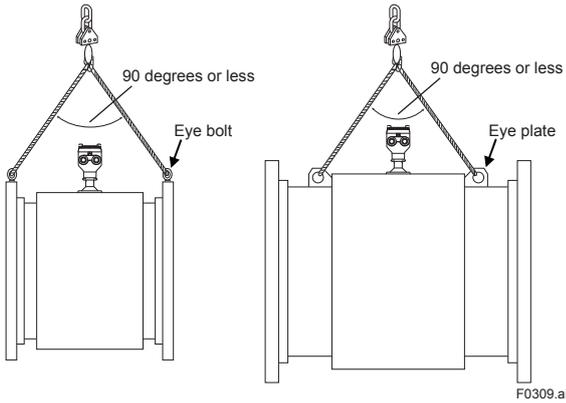

Figure 3.3.1 Carrying Flowtube
- To assure safety, keep lifting angle less than 90 degrees as shown in Figure 3.3.1
(3) Positioning Flowtube